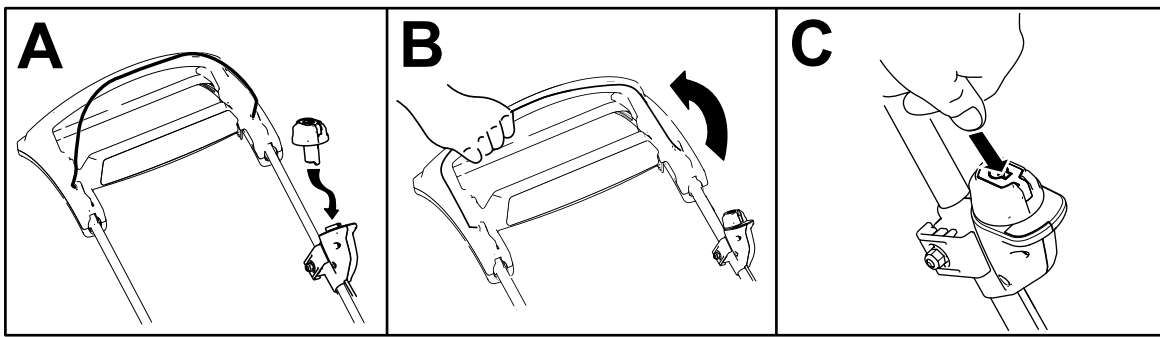

Figure 10
2. Insert the electric-start button into the electric-start switch (A of Figure 10).
3. Squeeze the blade-control bar and hold it to the handle (B of Figure 10).
4. Press the electric-start button and keep it pressed until the motor starts (C of Figure 10).